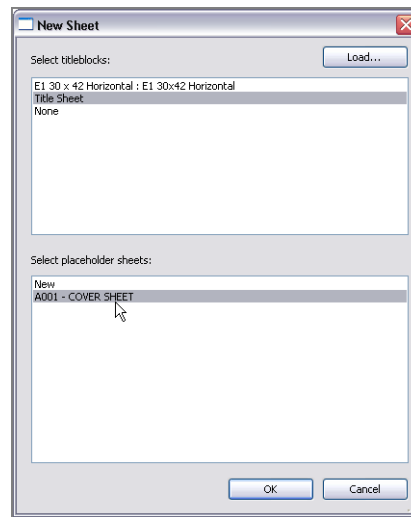

FIGURE 14.30: Adding the new sheet
9. Also in the New Sheet dialog, select the placeholder sheet that you added to the schedule, as shown in Figure 14.30.